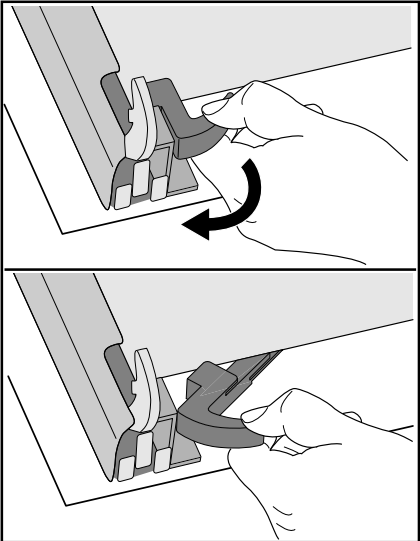

Fig. 5
- 7. Release the locking system to remove the internal panes of glass (Fig. 5).